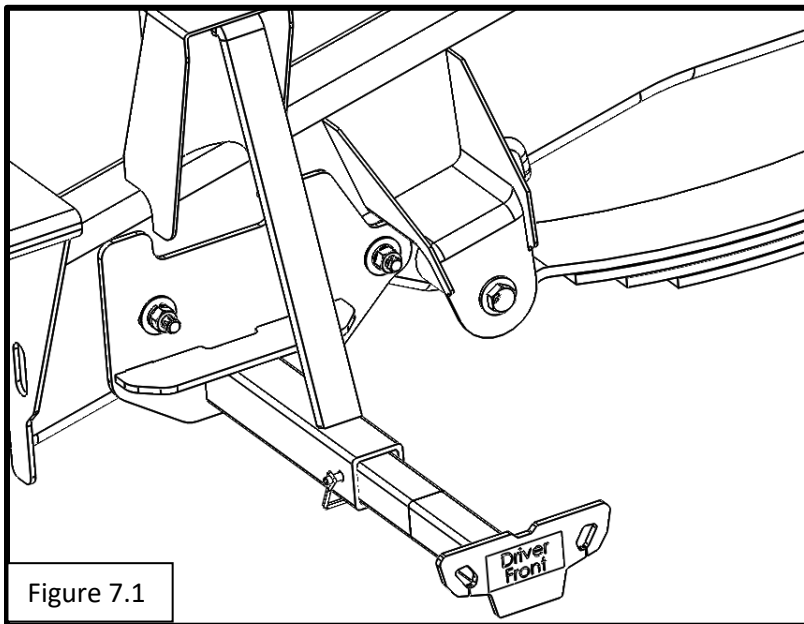

Figure 7.1
- Apply the appropriate “driver front” and “passenger front” sticker to the end plate on each Tie Down Insert. See figure 7.1 (driver side shown)